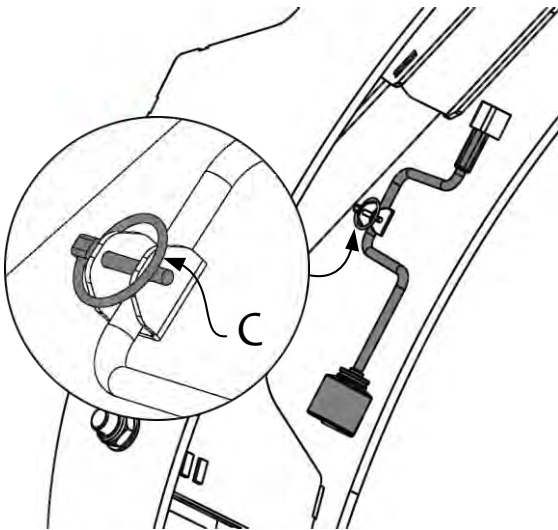
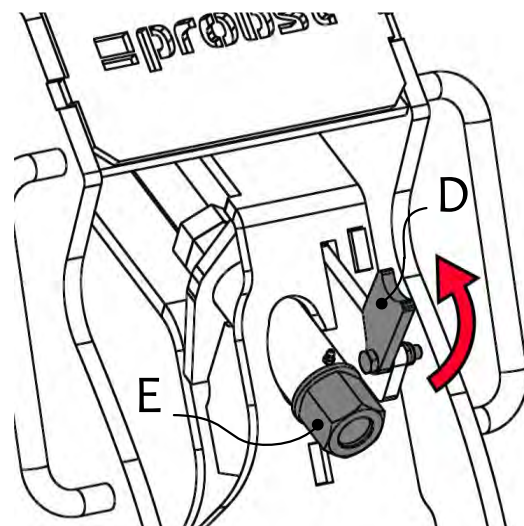

Fig. 2
Fig. 3
2. Remove the cotter pin (see detailed picture in Fig. 2) from the adjusting crank (C)
3. remove the adjusting crank (C) from the device (Fig. 2)
4. Turn the locking flap (D) upwards on the adjusting screw (E)
5. Adjust the grab range to the material to be grabbed (concrete pipe) with the adjusting crank (C) via the adjusting screws (E) (Fig. 3)
6. Turn the locking flap (D) downwards on the adjusting screw (E)